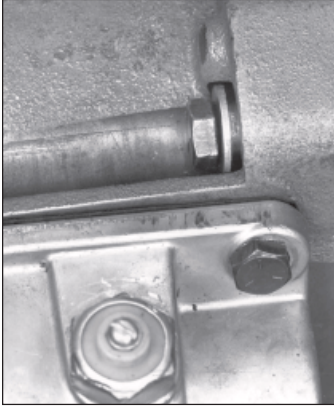

Fig. 16
**Note:** Once the 378431-26 Hex Head Screws are torqued down, the cone sleeve will be exposed as shown in Fig. 16.